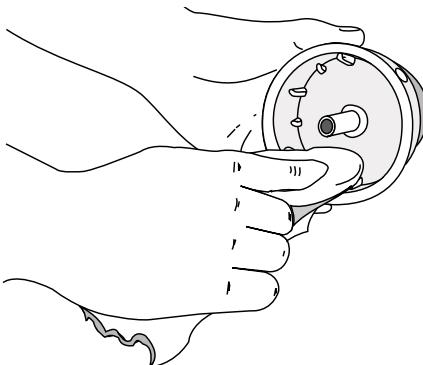

Fig. 20
4. Use a clean cloth to clean the inner reel, spring, shaft, and inner surface of the outer spool (Fig. 20).
- Use a clean cloth to clean the spring, shaft, and inner surface of the outer spool (Fig. 20).